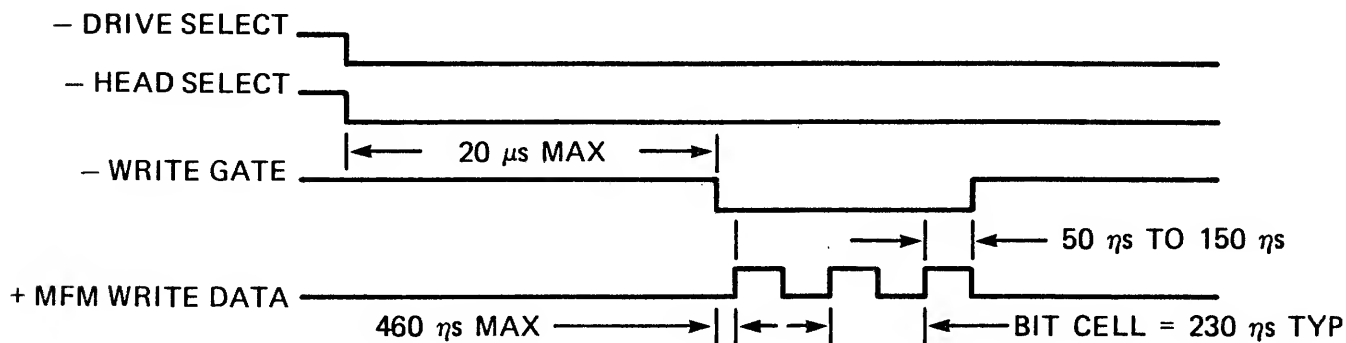

FIGURE 3-10
- MFM WRITE DATA - Provided there is a LO level on the WRITE GATE control line the transition of the +MFM WRITE DATA line more positive than the -MFM WRITE DATA line will cause a flux reversal to be written on the disk. During read operations the +MFM WRITE DATA line must be held more negative than the -MFM WRITE DATA line. Figure 3-10 shows the write data timing.